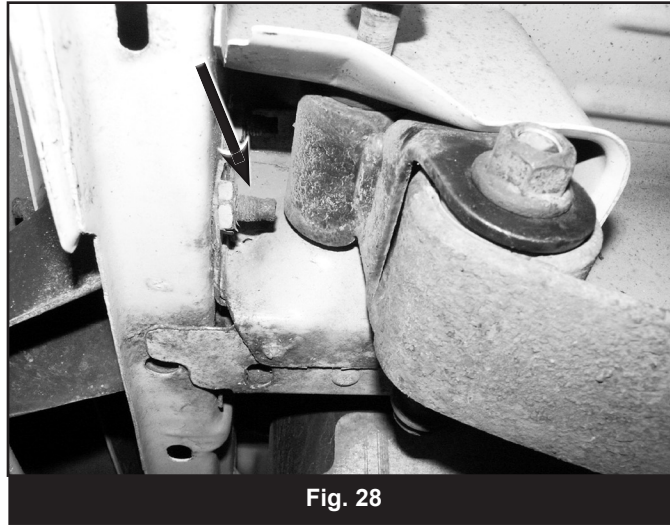

Fig. 28
12. Apply a small amount of grease to bushing (3533BK) and install bushing, sleeve (52), and grease zerk into the shackle (01312).
15. Locate the bumper bolt that is protruding into the shackle pocket (Fig 28). This bolt will contact the new larger shackle through suspension travel. The bolt can either be cut off flush with the welded nut on the body or removed.